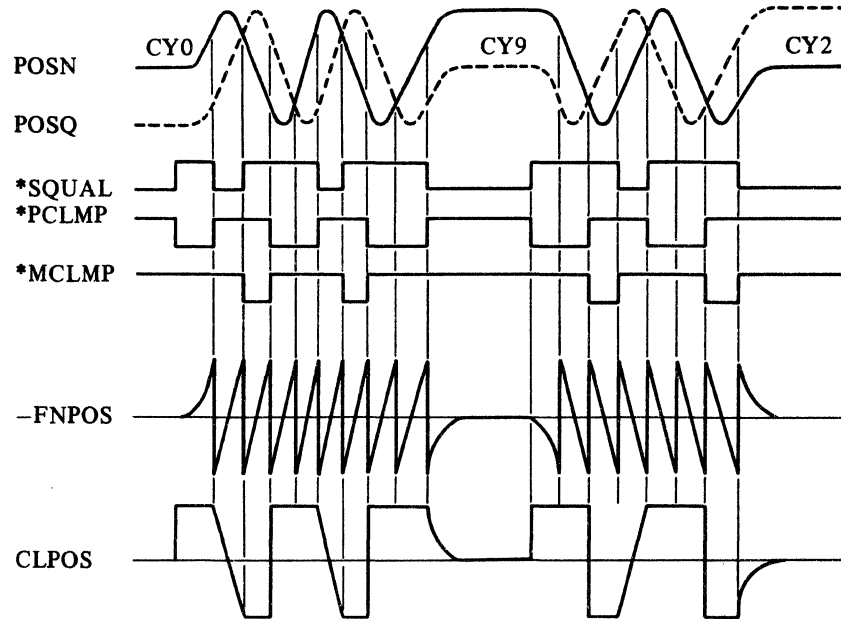

Figure 3.23 Clamp position timing chart
*EQUAL signal is active when a phase of current cylinder is the same as the phase of the target cylinder. When the phase of the current cylinder is different, the FNPOS signal is kept at the clamp level to extend the control range between +1.5 and -2.5 cylinders from the target cylinder. Figure 3.23 show the timing chart.